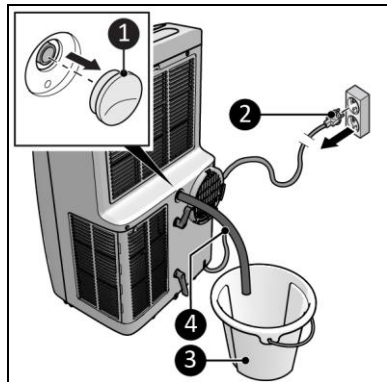

Figure 14
2. If heating for a longer period, install the water drain hose (Figure 14).
1. Make sure the device is switched off and the plug is removed from the power outlet (Figure 14, pos. 2).
2. Remove the rubber plug from the drain of the device and keep it in a safe place (Figure 14, pos. 1).
3. Connect the included water drain hose to the drain of the device (Figure 14, pos. 4).
4. Place the outlet of the water drain hose in a bucket (Figure 14, pos. 3).
If heating for a longer period, install the water drain hose (Figure 14).